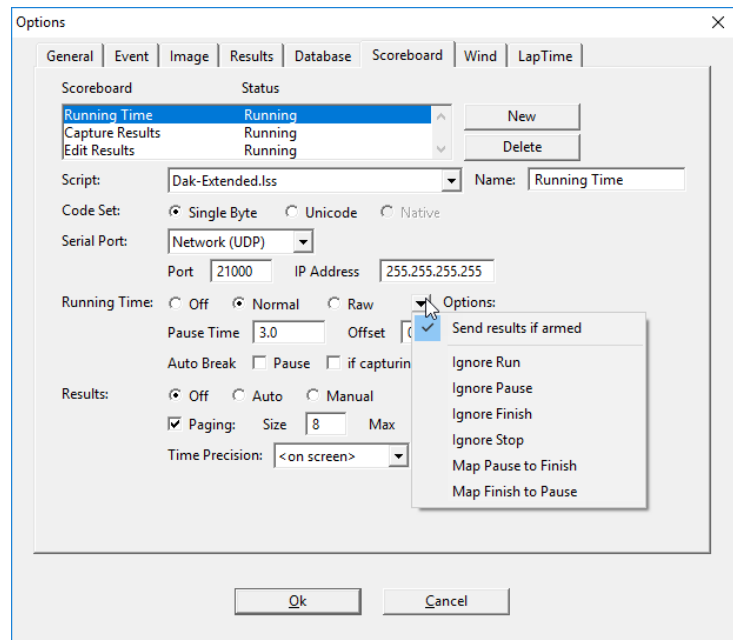

Figure 21: FinishLynx Running Time Options
6. Set up the Running Time options as follows (refer also to **Figure 21**):